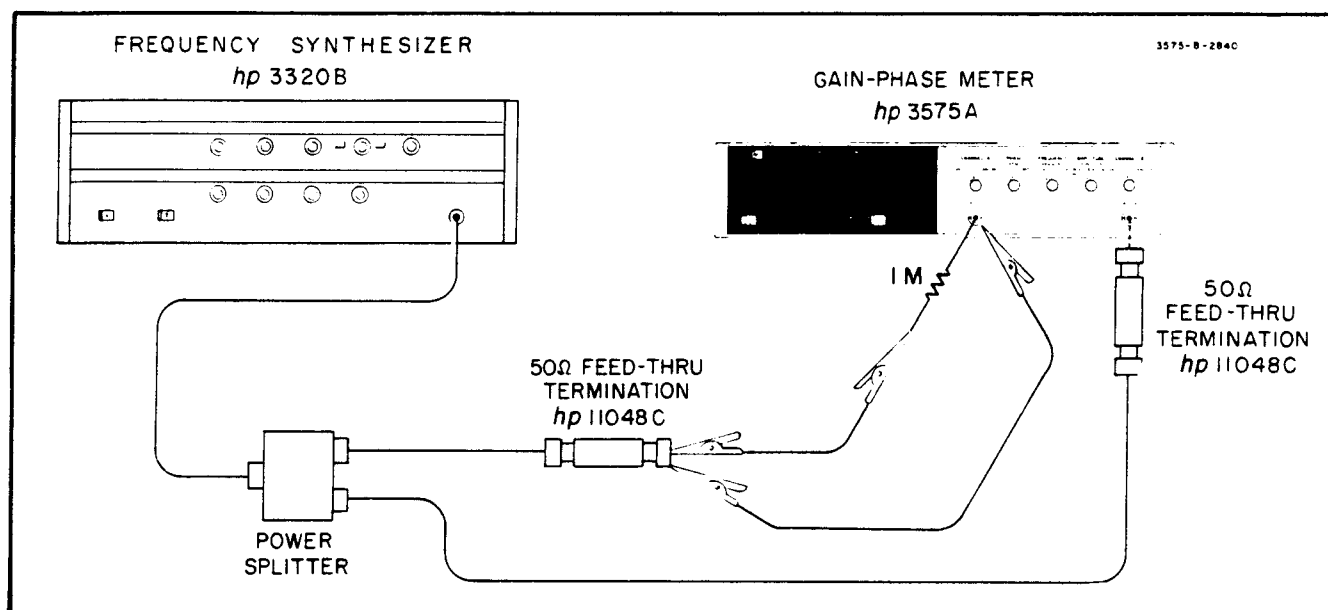

Figure 5-3. Shunt Capacitance Check.
a. Connect test equipment as shown in Figure 5-3. Insert one end of the 1 Megohm resistor into the Channel A input connector and connect the other end directly to the Feed-Thru Termination using a short clip lead. Use another short clip lead to connect the outer shield of the Feed-Thru Termination to the outer shield of the Channel A input connector.